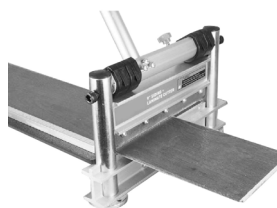

Fig. 4
3. Insert the workpiece to be cut into the blade opening (Fig. 4).
4. Make sure the workpiece is flush to the fencing (B).